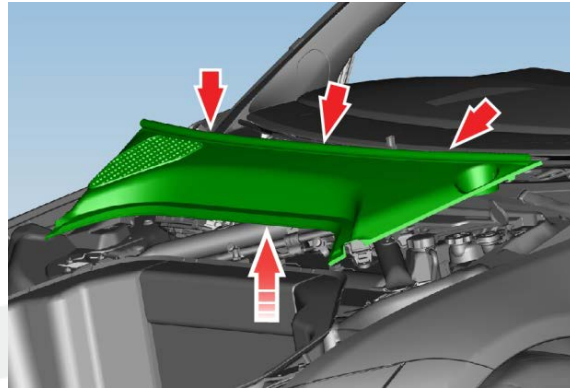

Figure 2
2. Release the clips that hold the rear underhood apron to the plenum, and remove the apron (Figure 2).